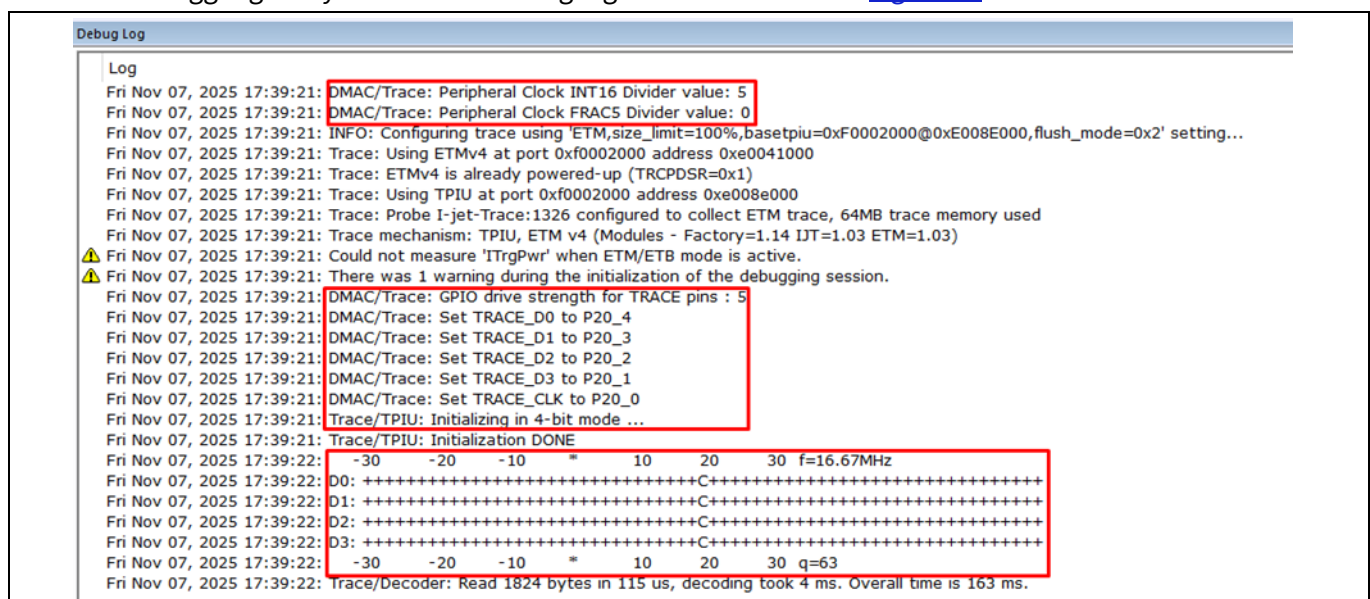

Figure 14 IAR debug log for ETM trace for first initialization
4. Click the **Go** icon on the toolbar to start the execution and collection of ETM trace data. You should see the user LED toggling every second. The debug log window is shown in Figure 14.